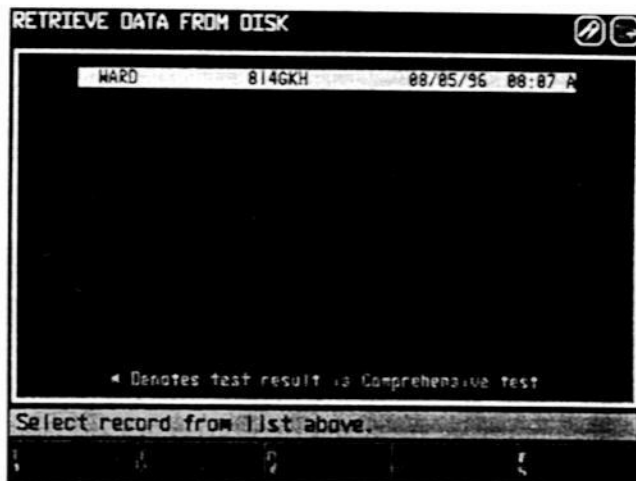

Figure 5-28
2. The disk is read by the system and a screen appears with saved files (see Figure 5-28). Move the cursor to the desired record and press [ENTER].